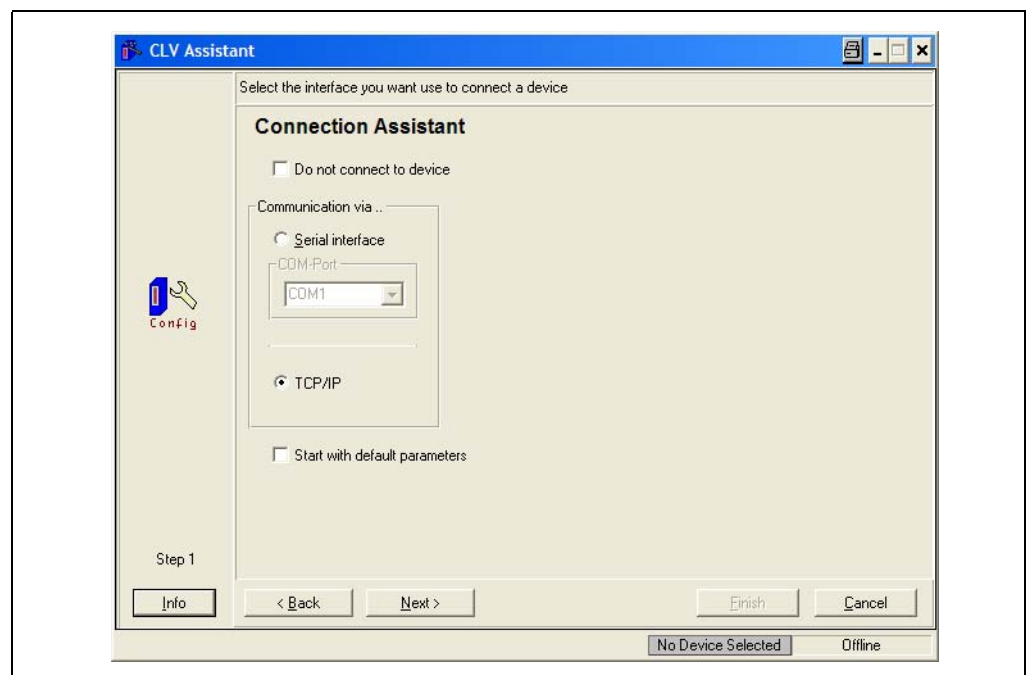

Fig. 6-2: CLV Assistant: Connection Assistant dialog box
1. In the dialog box of the Connection Assistant (*Fig. 6-2, Page 50*) click the control box START WITH DEFAULT PARAMETERS if necessary.